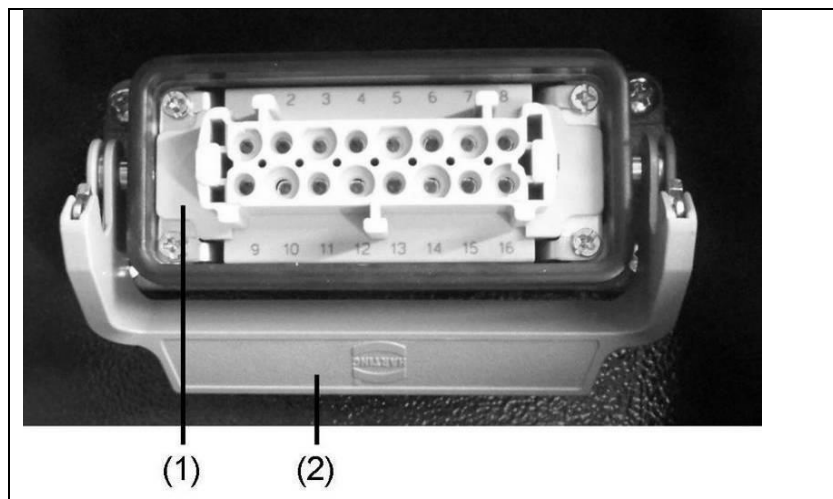

Fig. 5-4: Remote start device with Harting plug
1. Fold away any protective caps on the remote start socket after unlocking the clip (Fig. 5-4-(2)).
2. Plug the remote start operating status / generator connecting cable into the remote start socket (Fig. 5-4-(1)) and then use the clip (Fig. 5-4-(2)) to secure it in place.